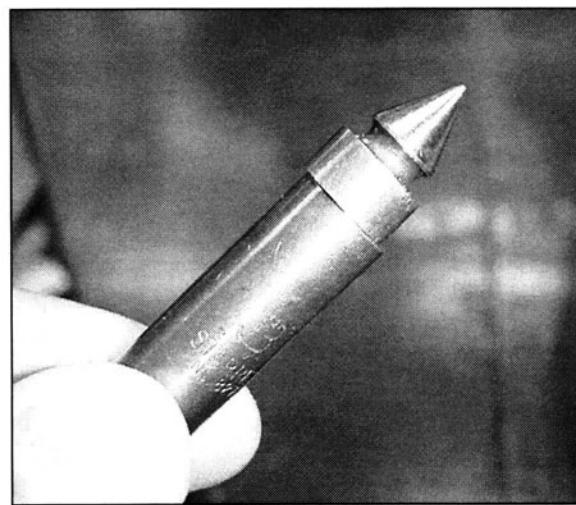

FIGURE 18-1 If you'd like to start an interesting debate ask a machinist or engineer what a cone shaped edge finder is used for.
22. *What is a cone shaped edge finder used for? (See Fig. 18-1)*